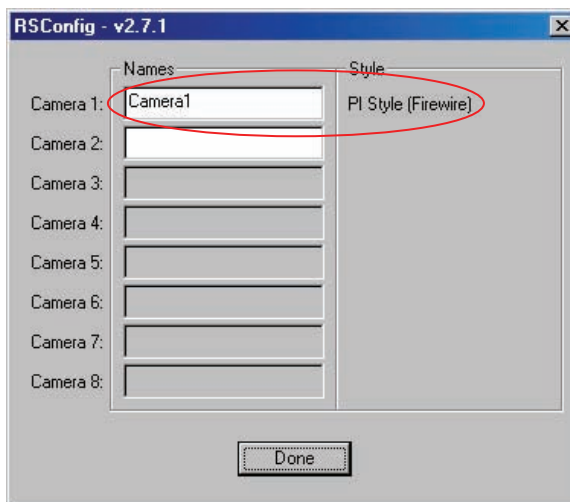

Figure 32. RSConfig dialog box
9. When the RSConfig dialog box (Figure 32) appears, confirm that the camera is listed.